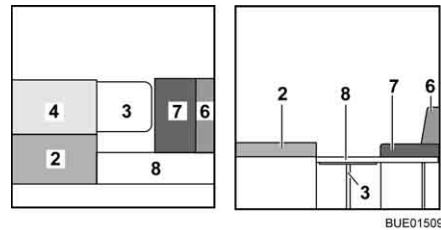

Fig. 145 During conversion
- Place the back cushion (Fig. 145,4) next to the seat cushion (Fig. 145,2).
- Unfold the supports of the bed extension (Fig. 145,8) and hang the bed extension from the holders on the bench seat.